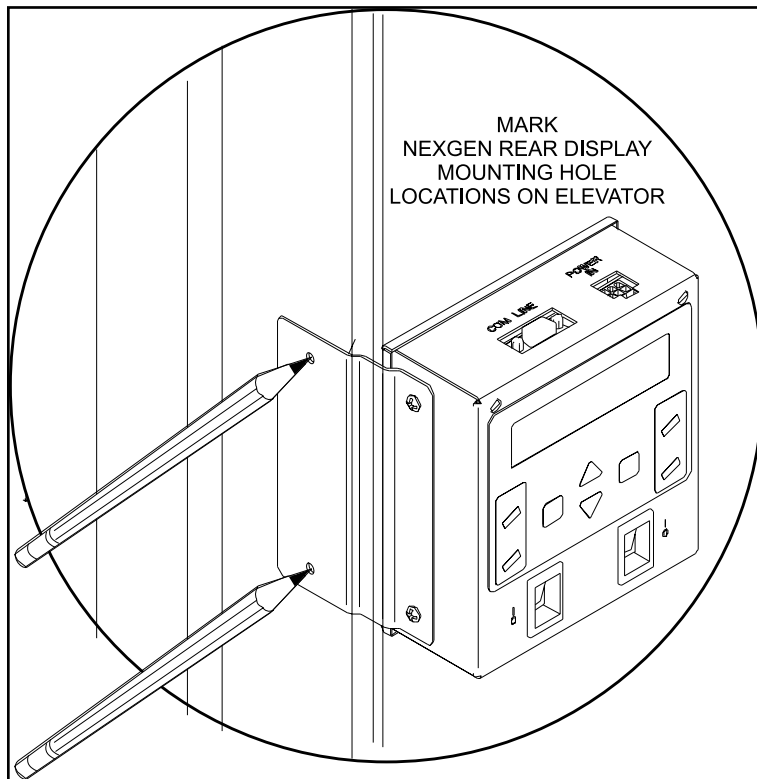

Figure 5
2. Mark location of mounting holes. Refer to *Figure 5*.